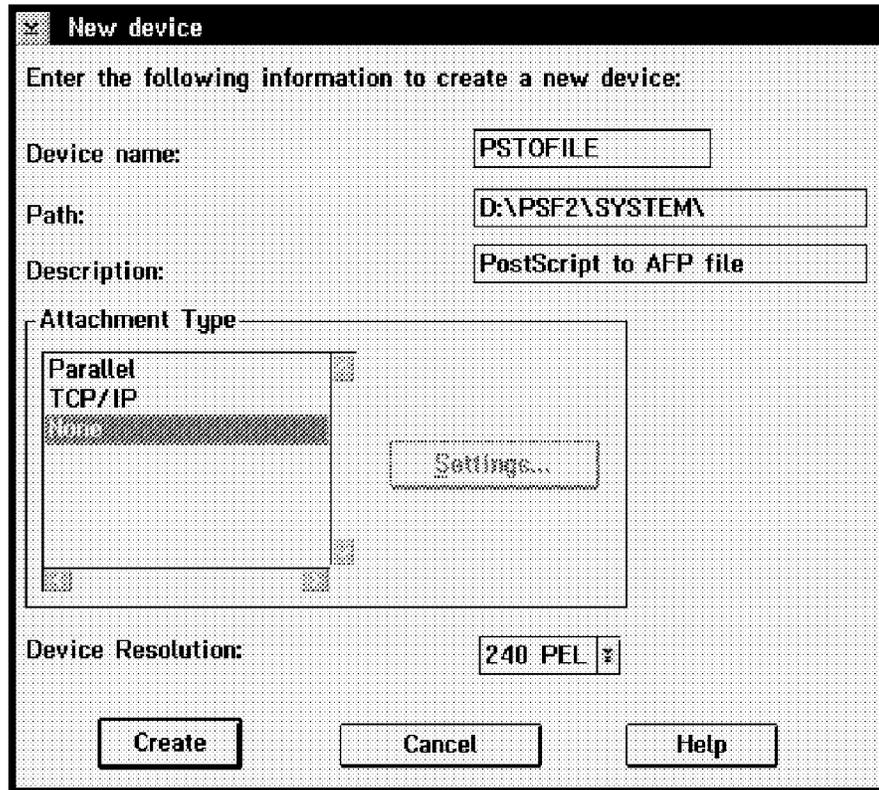

Figure 187. Creating a PSF/2 Device for the Transform Filter Exit
7. Now we need to create a PSF/2 device that will execute the transform without actually printing the data. From the PSF/2 Control Panel Profile menu, select **New...** On the New device window, enter the device name and description, and select **None** as the attachment type, as shown in Figure 187. Then, click on **Create**.